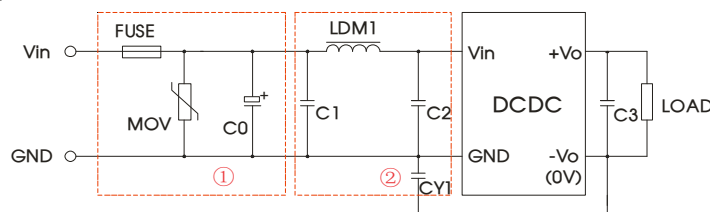

Fig. 3
Note: ① For EMC tests we use Part ① in the Fig. 3 is used for immunity and part ② for emissions test. Selecting based on needs.
② If there is no recommended parameters, the model no require the external component.